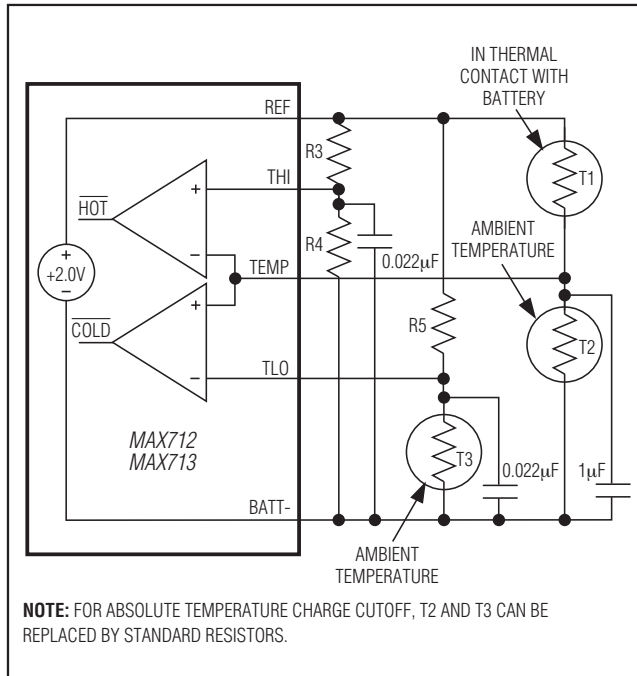
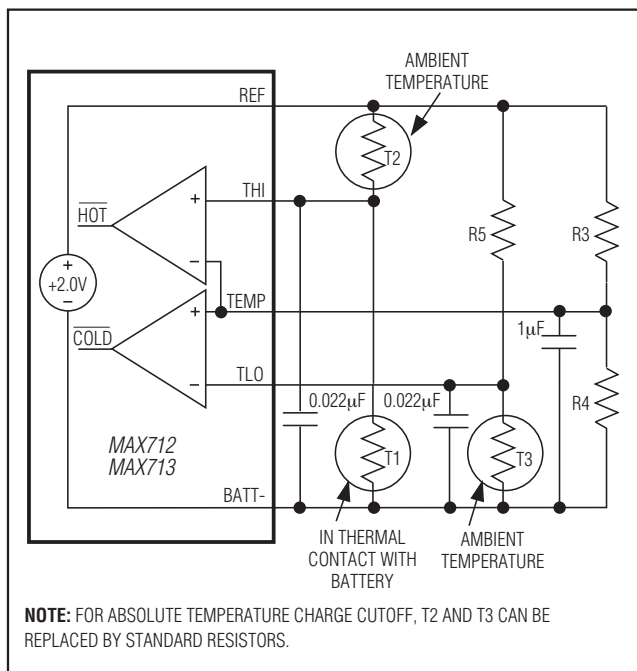
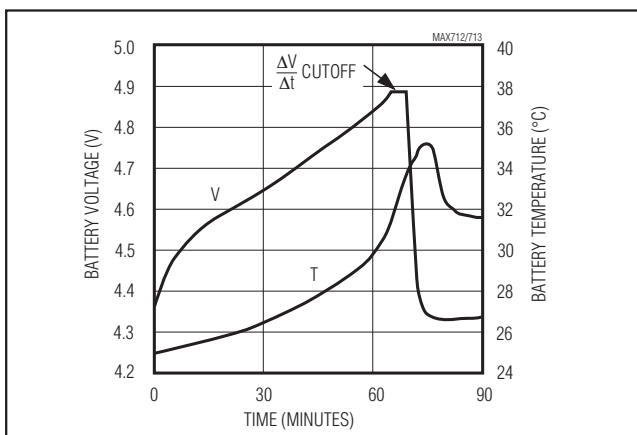

Figure 9a. Temperature Comparators
Figure 9b. Alternative Temperature Comparator Configuration
Figure 13. 3 NiMH Cells Charged with MAX712
Figure 9a shows how the MAX712/MAX713 detect over- and under-temperature battery conditions using negative temperature coefficient thermistors. Use the same model thermistor for T1 and T2 so that both have the same nominal resistance. The voltage at TEMP is 1V (referred to BATT-) when the battery is at ambient temperature.
Some battery packs come with a temperature-detecting thermistor connected to the battery pack's negative terminal. In this case, use the configuration shown in Figure 9b. Thermistors T2 and T3 can be replaced by standard resistors if absolute temperature charge cutoff is acceptable. All resistance values in Figures 9a and 9b should be chosen in the 10kΩ to 500kΩ range.
Figures 13 and 14 show the results of charging 3 AA, 1000mAh, NiMH batteries from Gold Peak (part no. GP1000AAH, GP Batteries (619) 438-2202) at a 1A rate using the MAX712 and MAX713, respectively. The *Typical Operating Circuit* is used with Figure 9a's thermistor configuration.